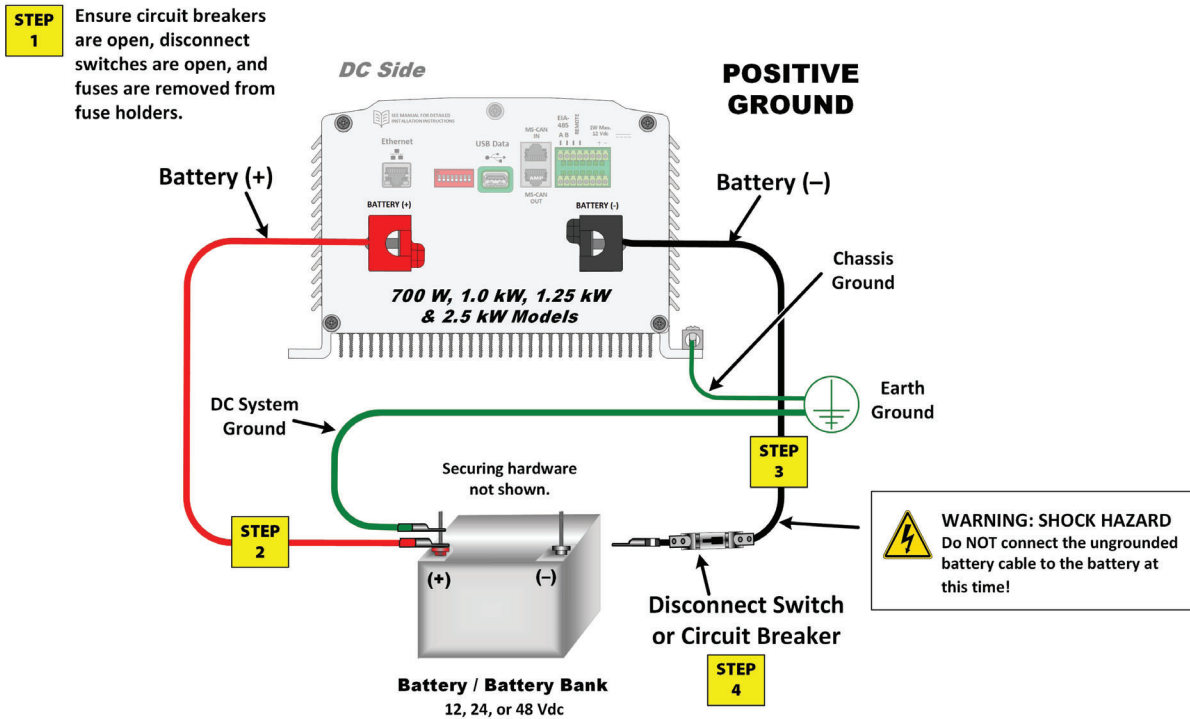

Figure 20: DC Connections on 700 W to 2,500 W Models with Positive Grounding
- **For 700 W, 1,000 W, 1,250 W & 2,500 W Models:** Figure 20 on page 26